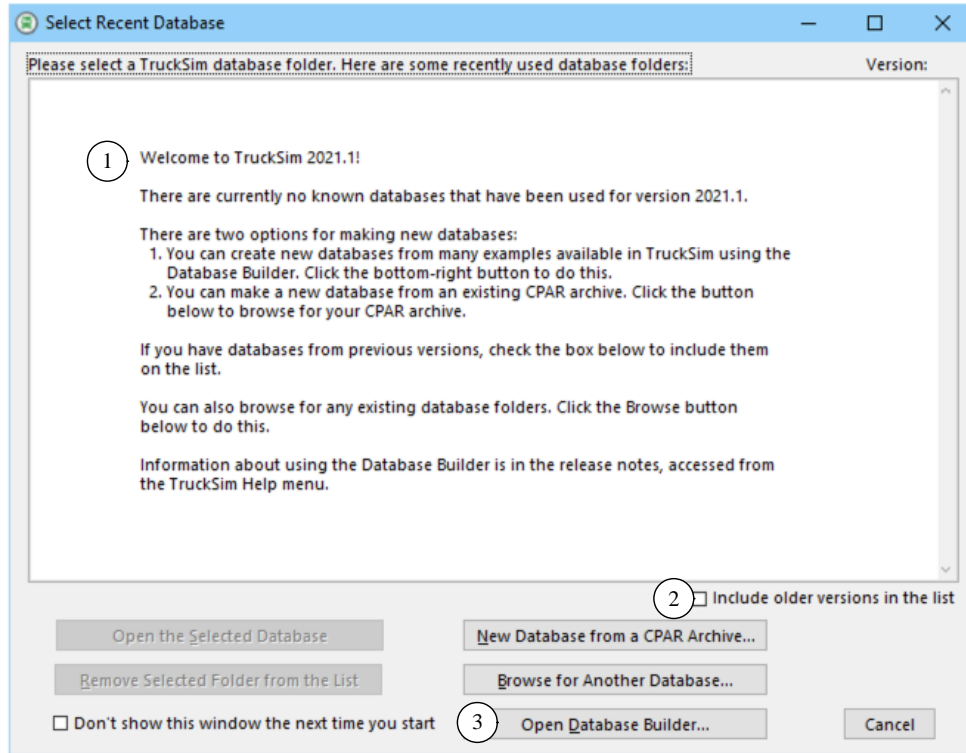
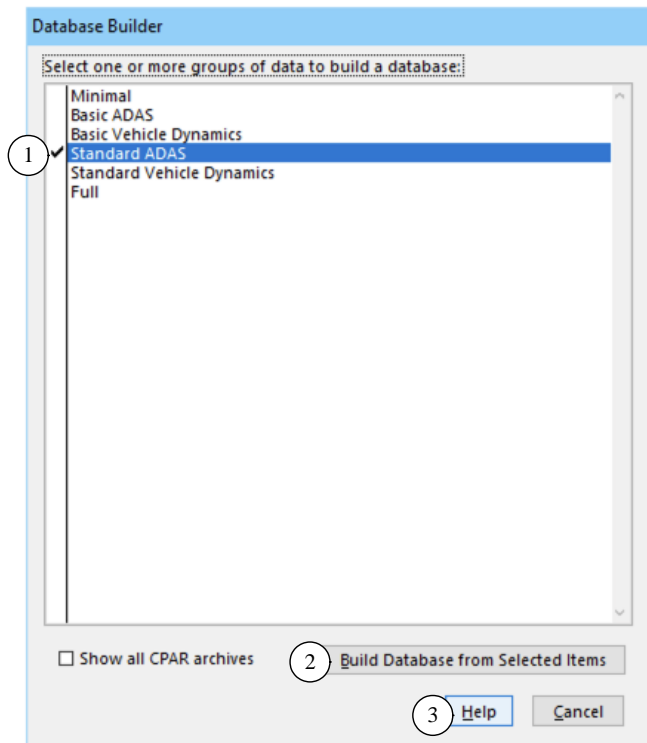
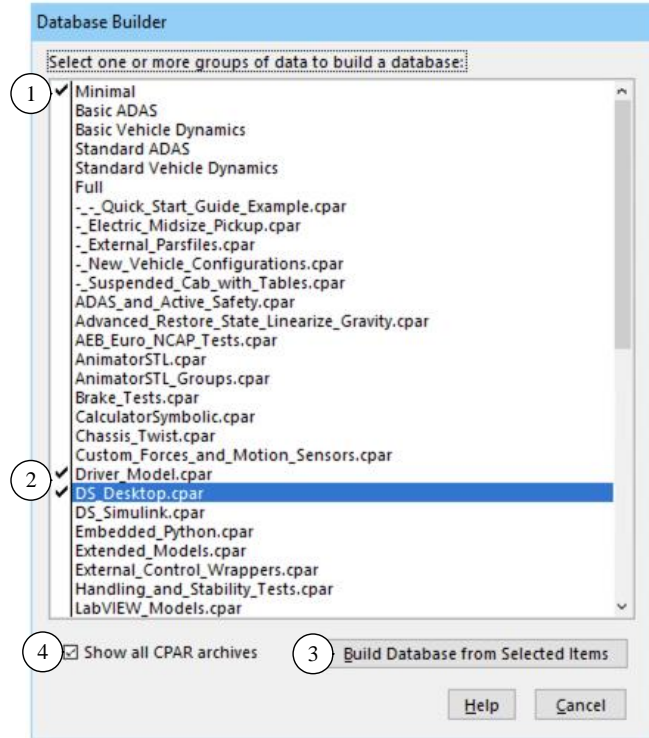

Figure 1. Recent Database window shown when opening a new version of TruckSim.
Figure 2. The database builder window showing only predefined database options.
Figure 4. Display when CPARs are also shown.
When opening recent versions of TruckSim, a window appears listing database folders that are known for the current version. This window (Figure 1) has been extended for 2021.1, providing access to a new tool: the Database Builder.
To access examples for 2021.1 when you start TruckSim, click the button **Open Database Builder** (3) (Figure 1) to bring up the Database Builder window (Figure 2). When a group of data is selected (1), the button **Build Database from Selected Items** (2) becomes active. The **Help** button (3) opens a PDF document that describes the options. (The Help document is also available from the TruckSim **Help** menu in the **Release Notes** submenu.)
Note Three of the first four options in the **File** menu correspond directly to three of the buttons in the **Select Recent Database** window (Figure 1).
Figure 2 shows that TruckSim 2021.1 provides six predefined databases. Table 2 provides a little more information about these options.
None of the six basic options shown in Figure 2 include specialty examples, such as RT HIL systems, software development kit (SDK) examples, examples using external tire models, etc. To access these, and other specific categories of examples, check the box **Show all CPAR archives** (3) (Figure 4) to see the entire collection. Notice that many CPAR archives are available, shown below the six database options described in Table 2.